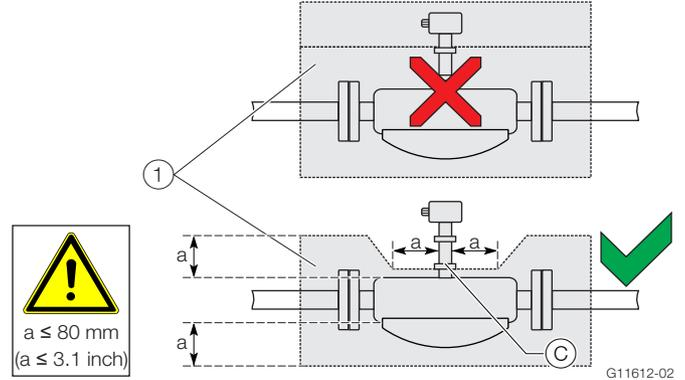

Fig. 12: Installation at $T_{\text{medium}} -50^{\circ} \dots 205^{\circ} \text{C} (-58 \dots 400^{\circ} \text{F})$
The sensor may only be insulated in conjunction with the option TE1 “Extended tower length for sensor insulation” or TE2 “Extended tower length – insulation capacity with dual gasket,” as shown in Fig. 12.
When operating the sensor in conjunction with heat tracing, the temperature at the point (C) (Fig. 12) $100^{\circ} \text{C} (212^{\circ} \text{F})$ may not be exceeded at any time!